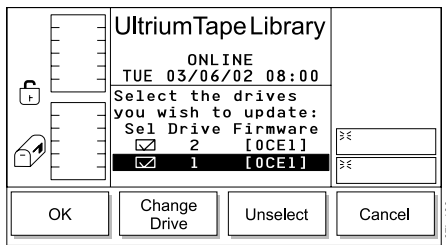

Figure 373. Select Drive Dialog
7. Press the button below the **OK** softkey. The Select Drive Dialog displays a list of installed tape drives and their current level of firmware (see Figure 373). The checkboxes in the left column contain checkmarks that indicate which drives are to be updated. The default is to update all drives (all checkboxes contain checkmarks).